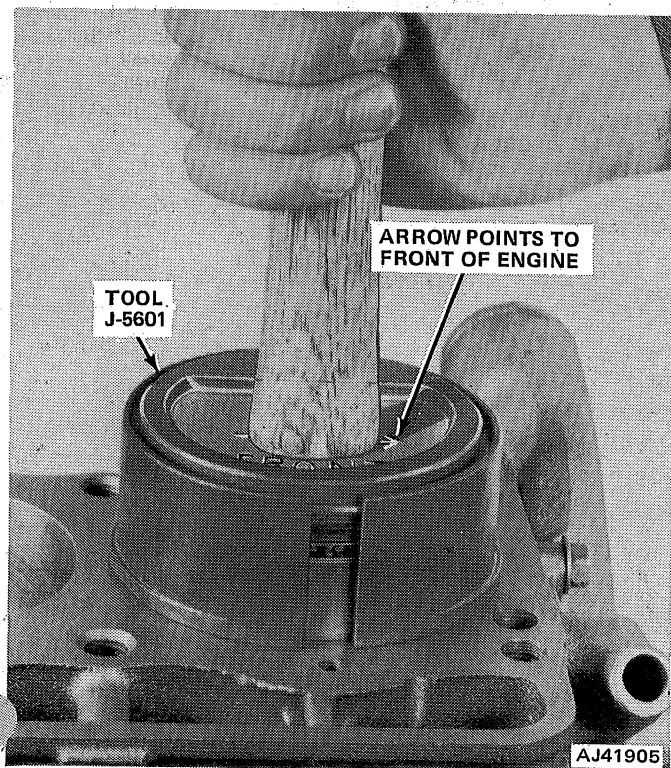

Fig. 1B-76 Piston Installation
(4) Use Piston Ring Compressor Tool J-5601 to install connecting rod and piston assemblies through top of cylinder bores (fig. 1B-76).
(5) Install connecting rod bearing caps and inserts in same order as removed.